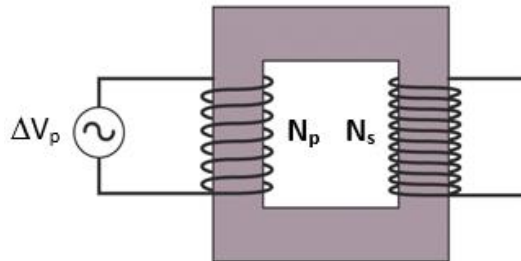

Figure8.2 Transformer consists of two coils wound on the same iron core.
In the absence of a ferromagnetic core, the magnetic field lines formed in the primary winding will be transferred to the secondary circuit, but in this case, the transformer will not work efficiently as a large loss will occur. The efficiency for the transformer in Figure 8.2 is the ratio of the power $\Delta V_s I_s$ in the secondary circuit to the power $\Delta V_p I_p$ supplied by the source.
- Put two coils with different winding numbers side by side as in Figure 8.2, without using iron core.
- Put two coils with different winding numbers side by side as in Figure 8.2, and connect them by using iron core.